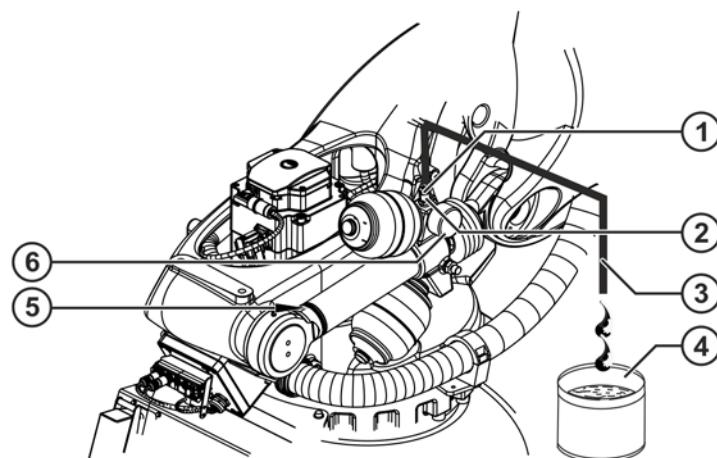

Fig. 10-4: Draining the hydraulic oil
2. Remove the screw cap and connect the hose to the vent valve (>>> Fig. 10-4).